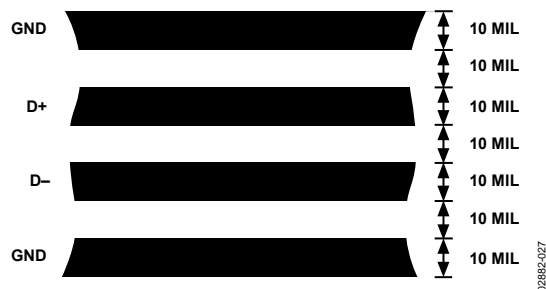

Figure 28. Arrangement of Signal Tracks
3. Use wide tracks to minimize inductance and reduce noise pickup. A 10 mil track minimum width and spacing is recommended (see Figure 28).